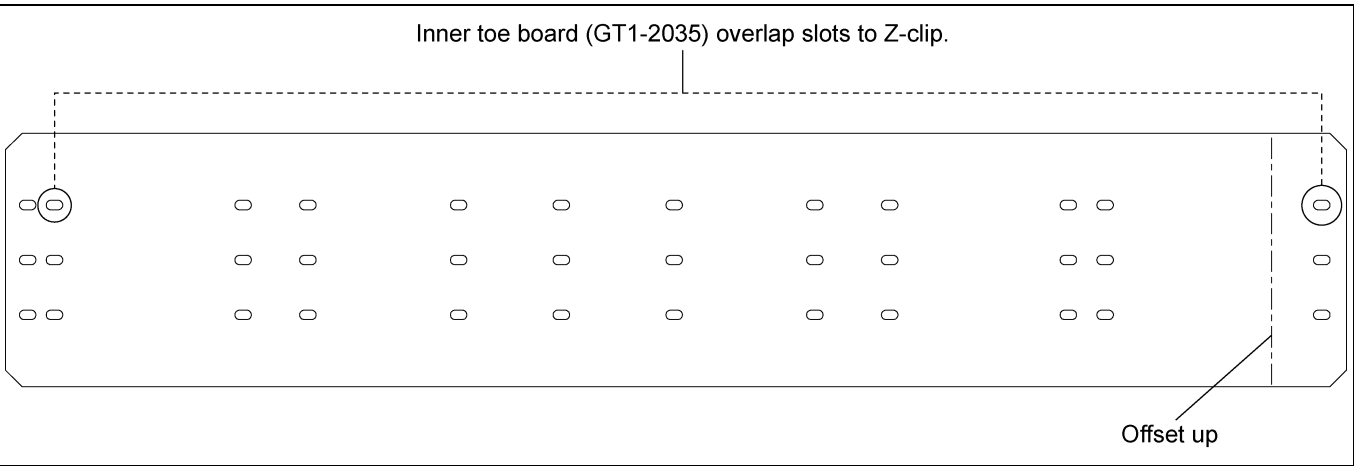

Figure 4I 30' Inner Toe Board (GT1-2035)
3. Inner toe board is arranged with overlap slots on each side. Install 30' inner toe boards (GT1-2035) to corresponding slots as shown in Figure 4I.